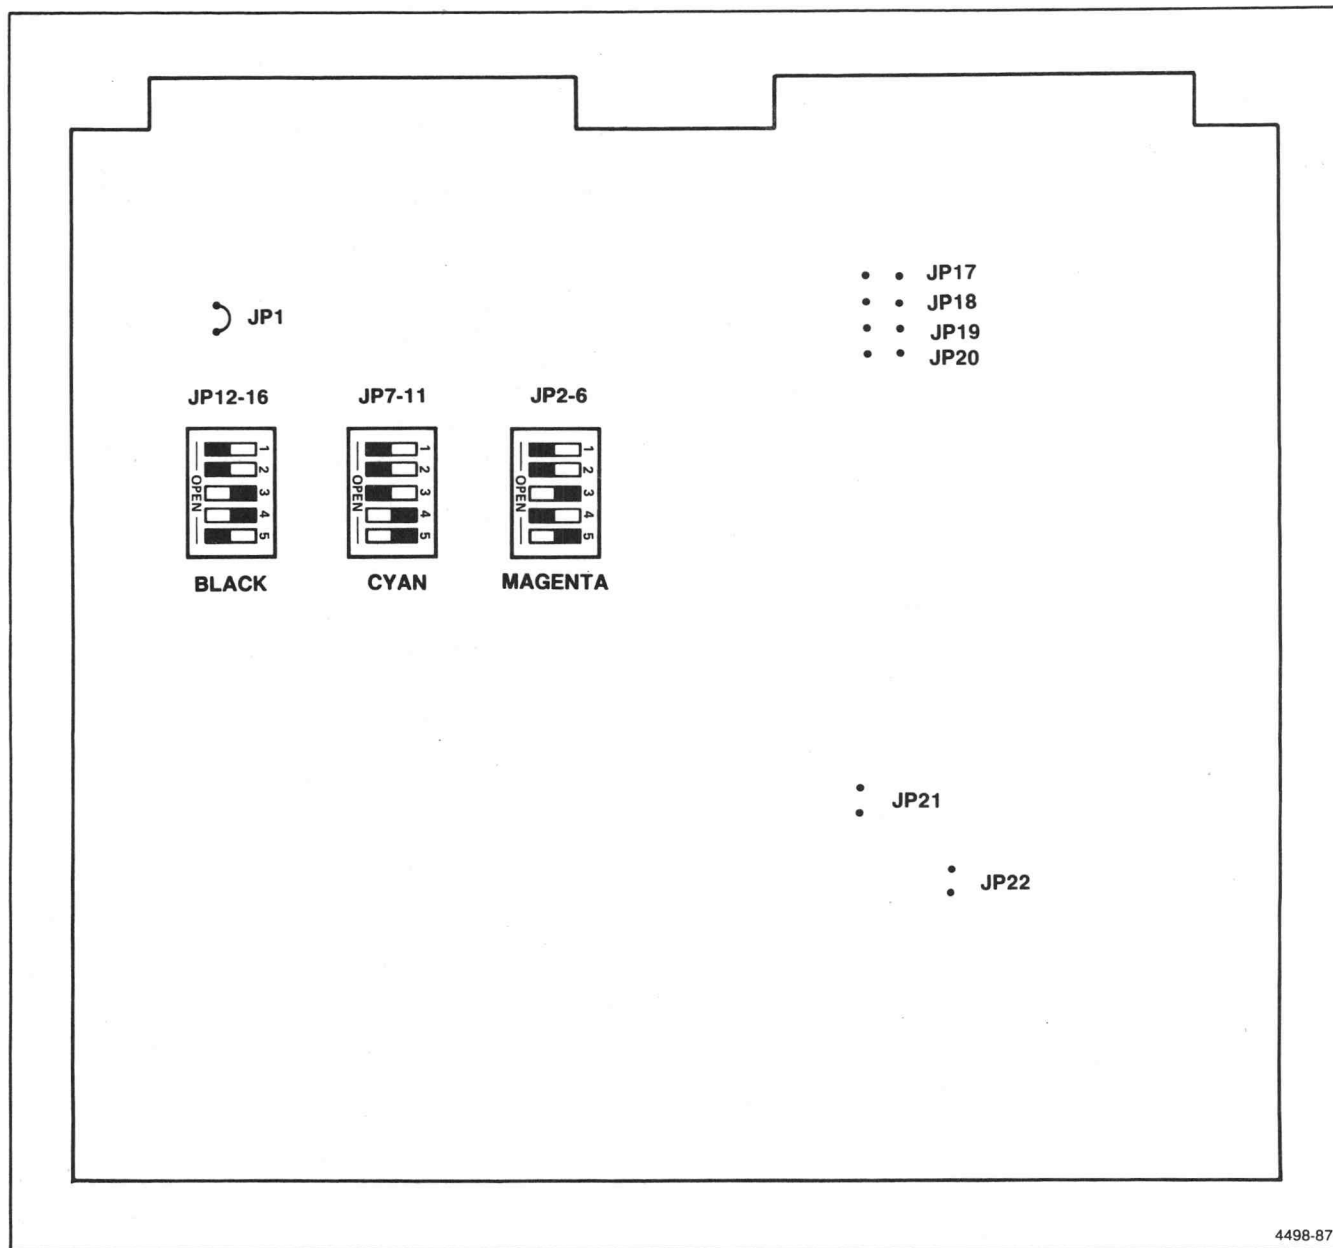

Figure D-2. Interface Straps and Switches Locations.
**B. Interface Circuit Board (see Figure D-2):**